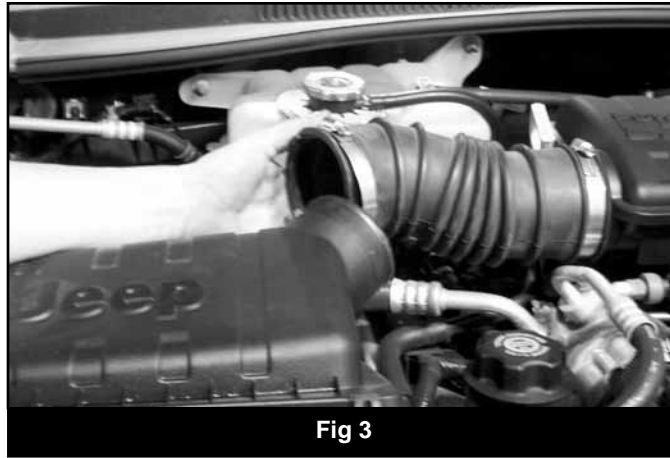

Fig 3
9. Disconnect the air intake hose from air filter box (Fig 3).